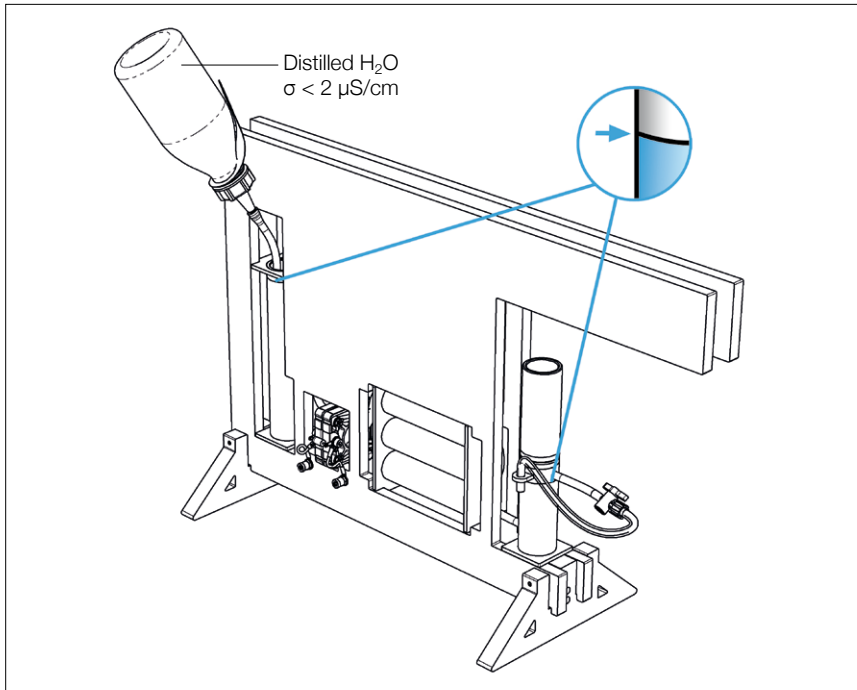

Fig. 5: Filling
- Fill the water reservoir up to the mark with distilled water ($\sigma < 2 \mu\text{S}/\text{cm}$) as shown in figure 5.
- Fill the hydrogen storage tank up to the mark with distilled water ($\sigma < 2 \mu\text{S}/\text{cm}$) as shown in figure 5.